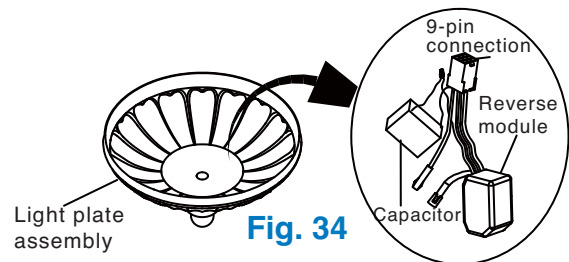

Fig. 34
Step 1. Remove the Wiring Harness from the Ceiling Fan “Switch Housing”. This includes the Reverse Module, Capacitor and 9 Pin Connector. Refer to Fig. 34.